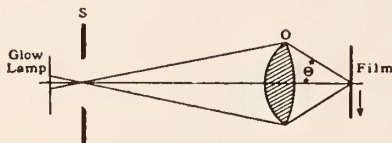
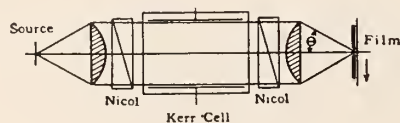

Fig. 4
Fig. 6
sound recording system using such a cell is shown in Fig. 6. Light from any source of constant brightness, such as the filament of an incandescent lamp, passes through the collimating lens and then through a polarizing Nicol prism before entering the Kerr cell. On leaving the cell the light passes again through a Nicol prism and a lens which forms an image of the filament source on the slit in front of the film. The second Nicol prism is so adjusted with respect to the first that when no voltage is applied to the electrodes of the cell they transmit one quarter of the incident light. When the signal voltage is applied to the cell, the exposure of the film is increased or decreased in a manner which corresponds roughly to the original variations in sound intensity.
tion 4 instead of equation 6. The numerical aperture of a microscope objective used in air is equal to the sine of the angle θ when the objective is used at the magnification for which it was designed. As the objective shown in Fig. 4 is used for reduction rather than for magnification, the sine of the angle θ is equal to the indicated numerical aperture when the distance from S to O is roughly 160 mm. The sine of θ varies inversely as the magnification plus one. Consequently, when the magnification is less than 1, as in Fig. 4, the illumination depends very little upon the magnification. For high values of the magnification it is nearly inversely proportional to the square of the magnification.
It is obvious that the optical system of Fig. 6 is fundamentally the same as that shown in Fig. 2 provided that the Nicol prisms and Kerr cell are of sufficient size. In other words if the second lens is the aperture stop, as Fig. 6 shows, the angle θ may be made sensibly the same as in the case shown in Fig. 4. Although the normal setting of the Nicol prisms decreases the average illumination to one quarter of the amount available without them, the brightness of the filament of an incandescent lamp is many times greater than the brightness of any glow lamp having a reasonable life. Consequently, recording may be done with the Kerr cell arrangement on a less sensitive and better adapted type of photographic material.
By means of a suitable system of cylindrical lenses, the magnification between the string and the film may be 100 to 1 in the horizontal plane and 1 to 1 or better in the vertical plane. In the Kerr cell arrangement of Fig. 6 the magnification between the source and the film was 1 to 1 in both planes. Consequently, neglecting for the moment the absorption of light by the Kerr cell and the loss caused by the Nicol prisms, this type of string galvanometer arrangement can be only 1/100 as efficient in light-gathering power as the Kerr cell arrangement. If we continue to neglect the absorption in the cell but remember that the Nicol prisms reduce the illumination to one quarter of the value it would have otherwise, we find
It is obvious that the value of θ may be made approximately as great as the angle θ in the Kerr cell arrangement of Fig. 6. The maximum value of θ_1 requires a little more careful consideration. If no mechanical difficulties were encountered, the galvanometer should be placed as close to the film as possible, the limit being reached when the opening subtends the same angle from the film as the lens C. In other words, except for mechanical limitations θ_1 may approach the value of θ_2 in a well-designed system.
8. The source of light is focused on the film. Each of the four lenses shown may conveniently be a microscope objective of 66 mm. focal length and 0.25 numerical aperture. Since the magnification of the source of light on the film is approximately unity, the illumination is four times as intense as that produced by the same objectives used in the Kerr cell arrangements of Fig. 6 because of the loss occasioned by the Nicol prisms. The sound produced by this system is slightly distorted in the high frequencies, when the velocity of the string approaches that of the film. Since the effect of distortion, however, is to introduce higher harmonics, it may not be serious because of their relative inaudibility. This ar-